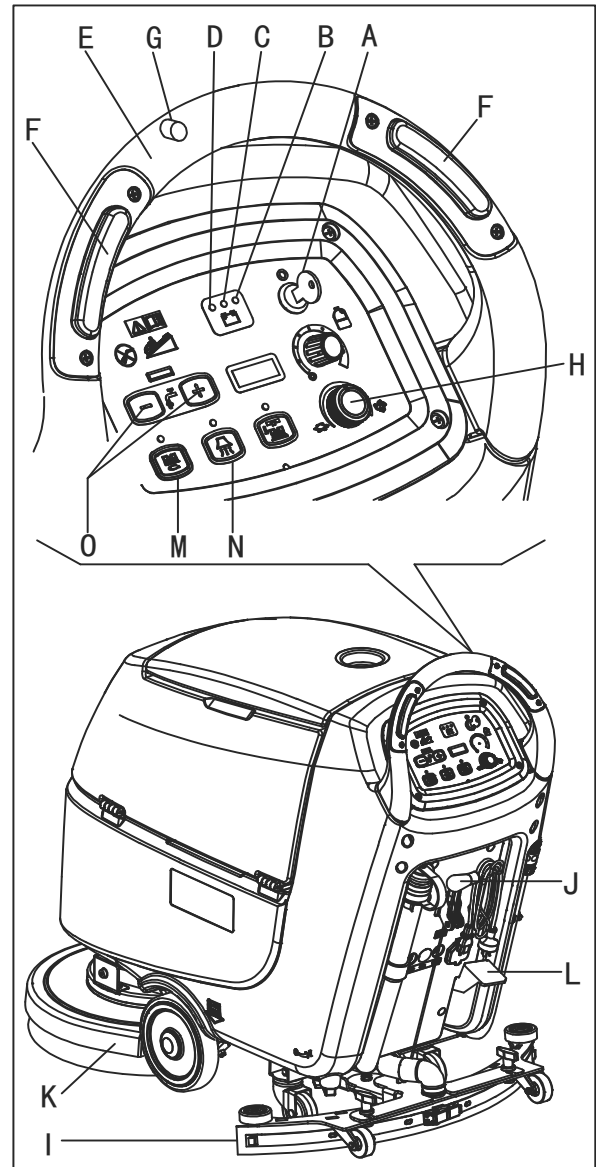

Figure 9
2. Insert the ignition key (A, Figure. 9) and turn it to "I". Check that the green warning light (B) turns on (charged battery). If the yellow (C) or red warning light (D) turns on, turn the ignition key back to "0" and charge the batteries (see the procedure in Maintenance chapter).
- By pushing it with the hands on the handlebar (E) (only for machine without traction).
- By pushing it with the hands on the handlebar (E) and pressing the switch (F) to move forward, or pressing the switch (F) together with the switch (G) to move backward (only for machine with traction). The forward speed can be adjusted with the adjuster (H).
4. Lower the squeegee (I) with the lever (J).
5. Lower the brush/pad-holder deck (K) by lifting the pedal (L).
6. Press the brush/pad-holder switch (M) and the vacuum system switch (N).
7. Press the washing water flow control switches (O) as necessary, depending on the type of cleaning to be performed.
- (only for machine without traction) by pushing the machine with the hands on the handlebar (E) and pressing the switch (F).
- (only for machine with traction) by pushing the machine with the hands on the handlebar (E) and by pressing the switch (F). If necessary, the forward speed can be adjusted with the adjuster (H).
2. While keeping both hands on the handlebar press the safety switch (F, Figure. 9), then maneuver the machine and start scrubbing/drying the floor.